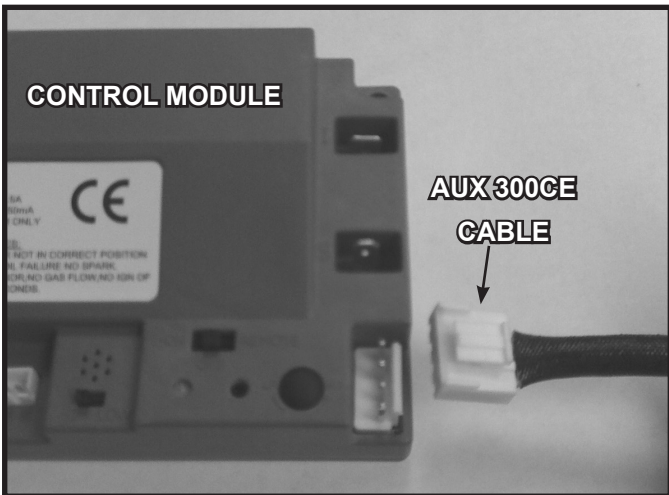

Figure 12.7 AUX 300 module installation
- Insert the 4 hole harness from the AUX300CE module into the 4 pin plug on the control module. See Figure 12.7.